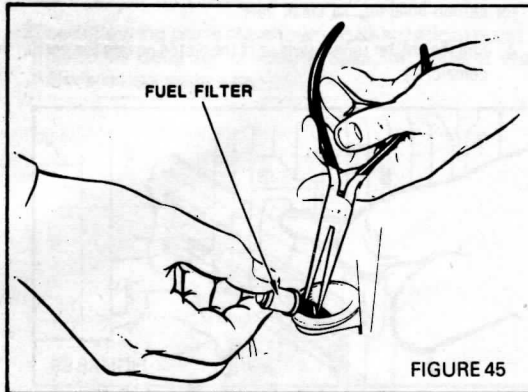

FIGURE 45
2. Pull the filter off with a twisting motion. (Figure 45).